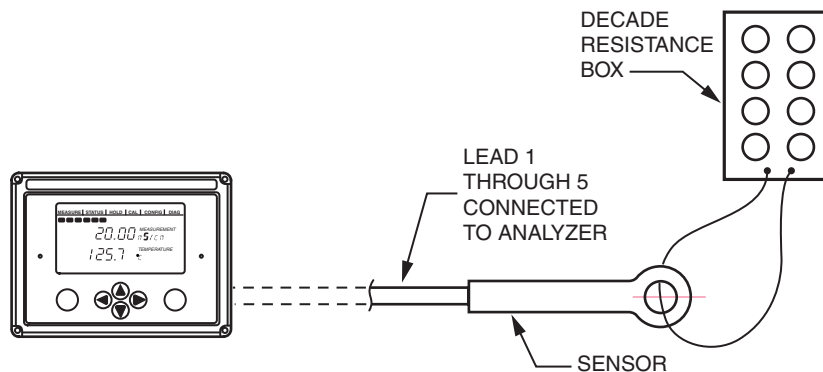

Figure 3.
1. Loop a wire through the sensor and connect to a resistance decade box. See Figure 3.